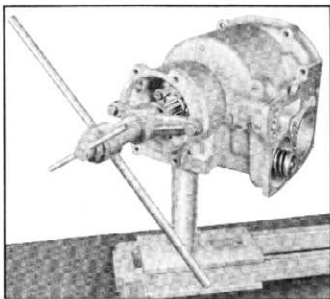

Fig. 72—Removing Planet Carrier Assembly
19. Install mainshaft removing and replacing tool, J-938, to planet carrier output shaft and to rear face of transmission case as shown in Figure 72 (Tool J-938 was originally de-